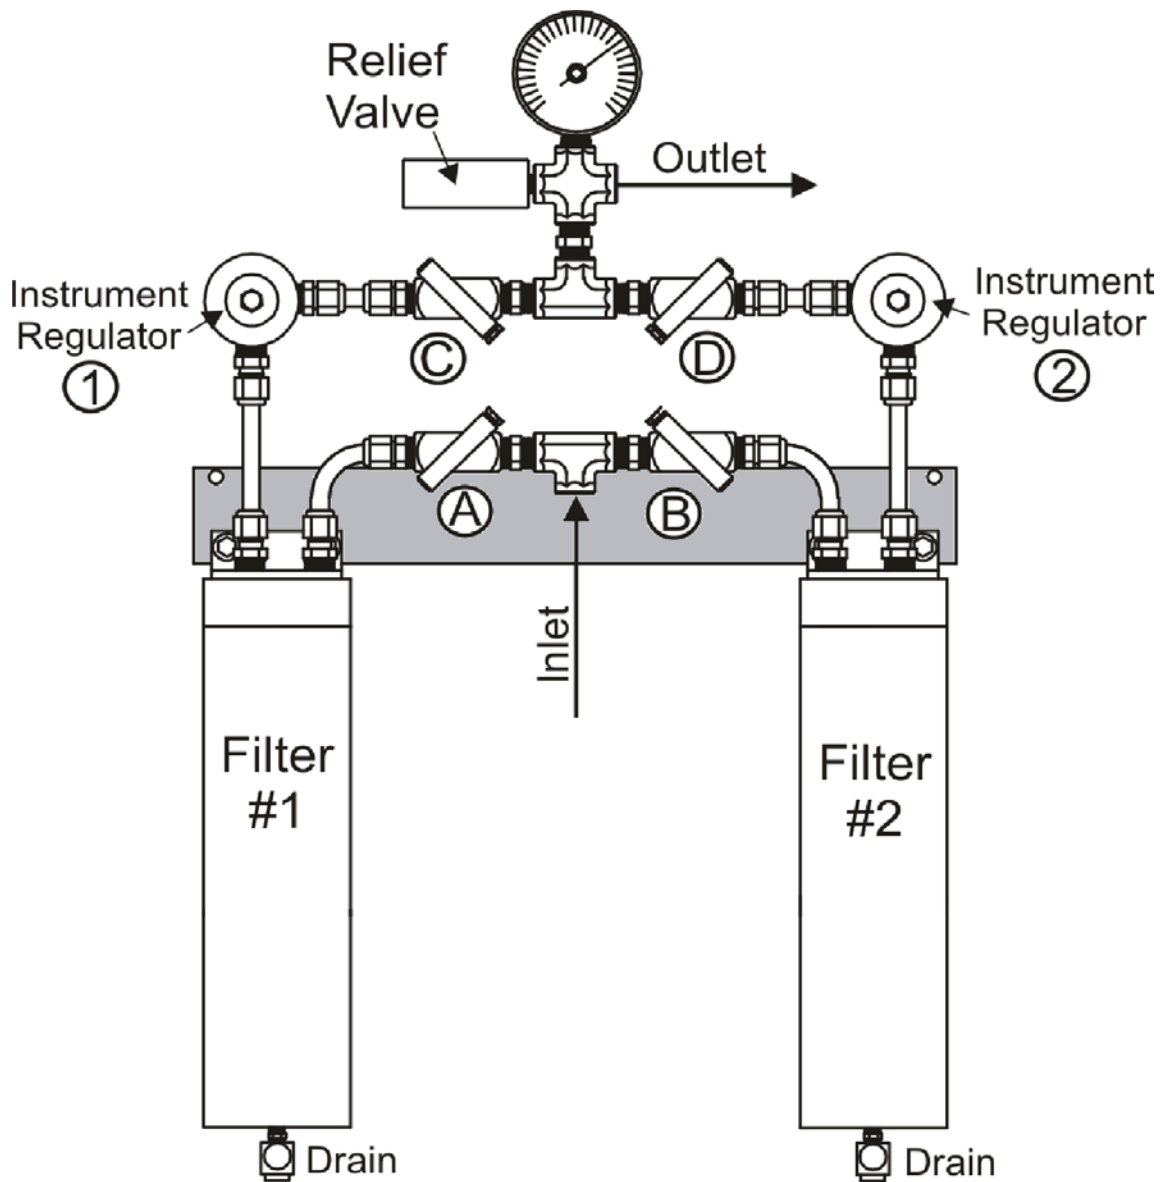

Figure 1
- 2.2.2 Close all valves (*A, B, C, and D of Figure 1*) on the assembly.
A relief valve and gauge are installed on the outlet of the assembly (see Figure 1).